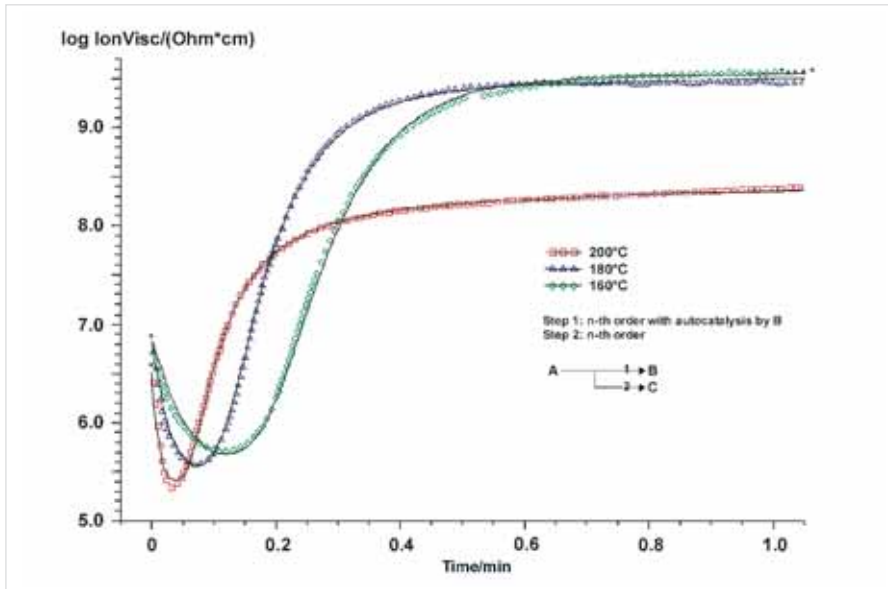

Fig. 3. Fit of a kinetic model to the experimental data.
3. Isothermal measurements at different temperatures and kinetic analysis (Fig. 3 + 4)